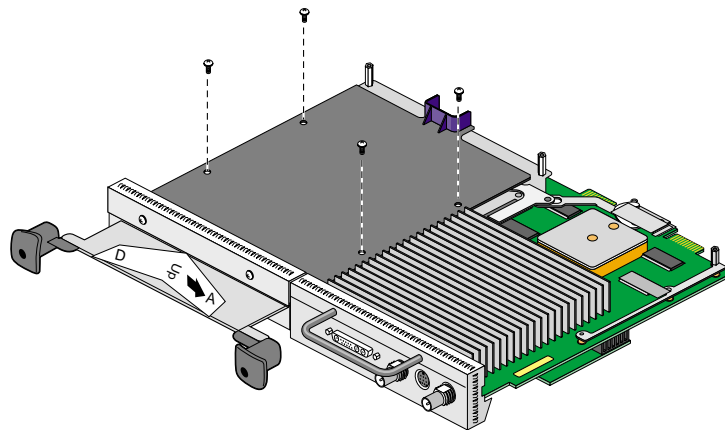

Figure 21 Removing the Screws from the Blank Panel
1. Using the supplied Phillips reversible screwdriver, remove the screws from the option board or blank panel occupying the desired slot, as shown in Figure 21.